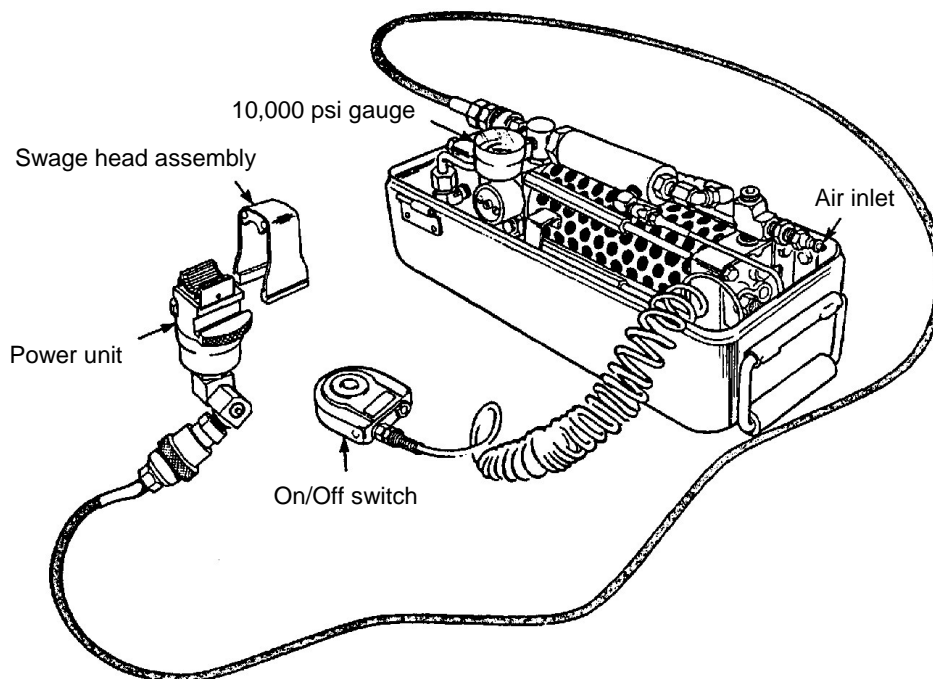

Figure 6. Designed Metal Connections (Deutsch DMC) DLT Swaging Kit Assembly
Step 6. Connect the hydraulic pressure hose to the power unit and to the hydraulic outlet on the hydraulic power supply (see Figure 6).
- Step 7. Connect the shop air supply (see Figure 6).